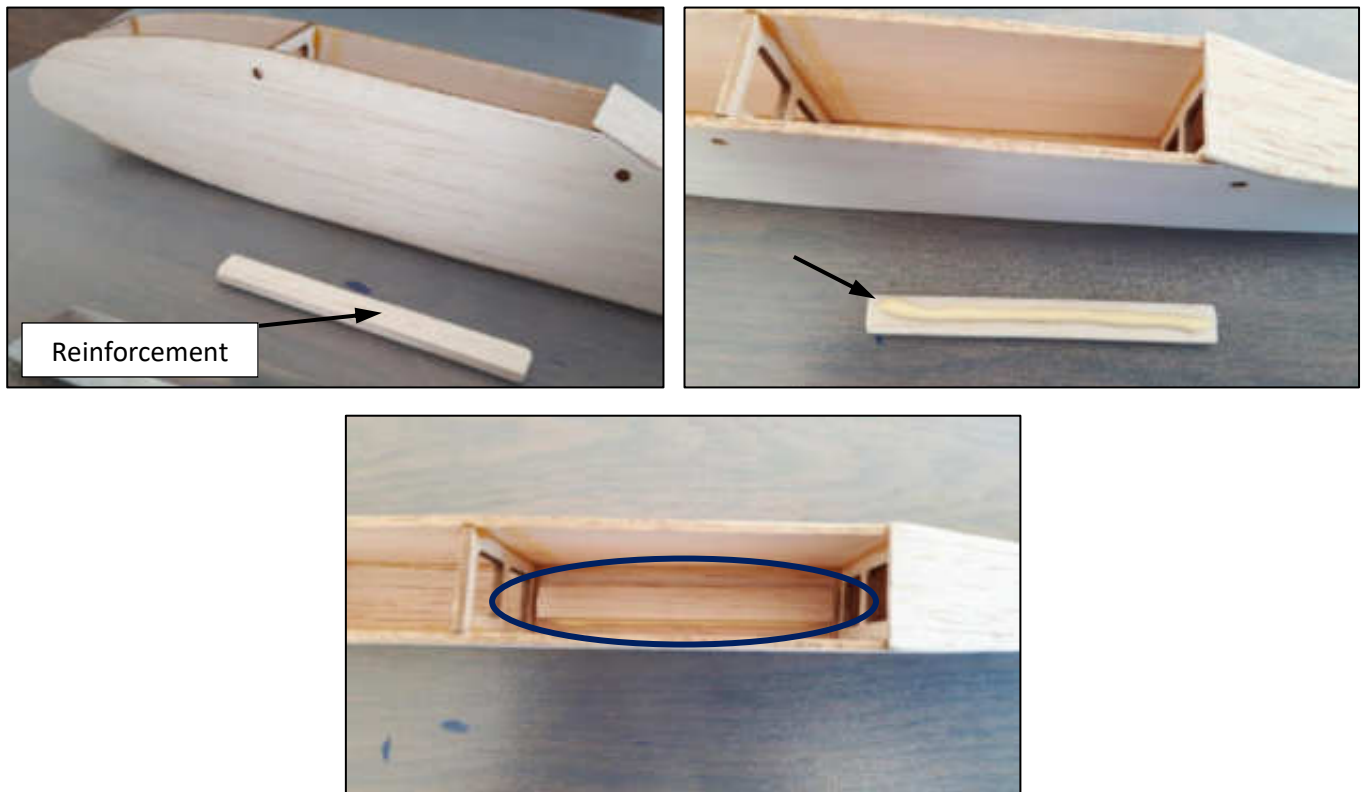

Figure 24: Reinforce the fuselage.
24. Cut a piece of reinforcement material and glue to the inside of the fuselage as shown in Figure 24. It is recommended that you glue two pieces of material to provide strength to the fuselage.